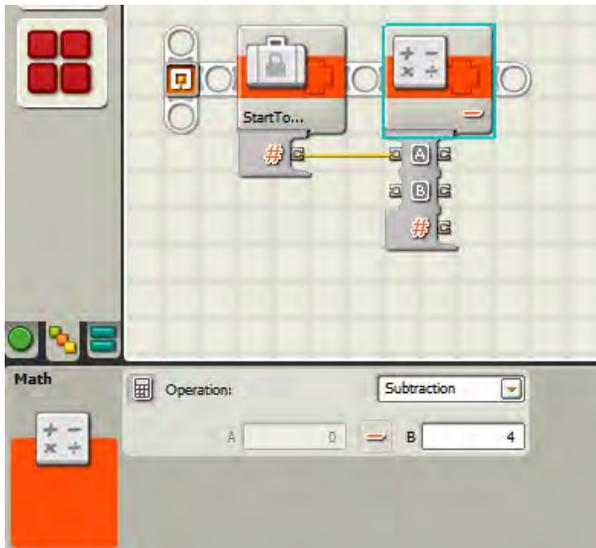

Figure 18-24. The CONSTANT block provides its value to the MATH block.
But now, we can use the CONSTANT block (that's holding a value of 24) with a MATH block to do a little calculation. I'll cover the MATH block in more detail in Chapter 20, but for now just know that the MATH block can be used to add, subtract, multiply, and more. Figure 18-24 shows that I'll be using it to take the CONSTANT block's value (24) and subtract four from it. I first drag a data wire out of the CONSTANT block and into the input plug A for the MATH block. I've also used the MATH block's configuration panel to set the value of B to four and configured the Operation to perform a Subtraction operation. B will be subtracted from A and that value will be supplied to a MOVE block.